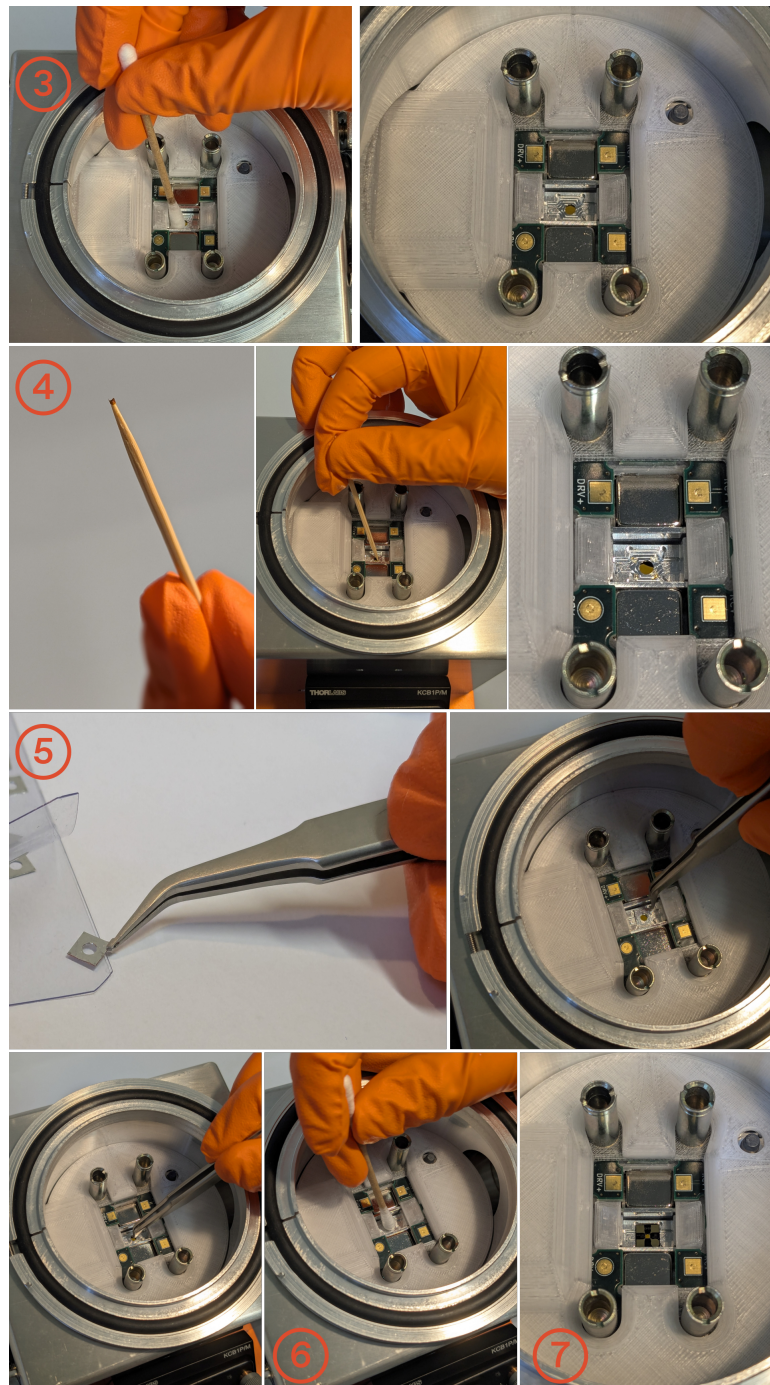

Figure 64: Visual support for the Indium foil exchange workflow.
3. Clean the chip holder with clean pressured air (optional) and a cotton swap dipped in isopropanol (see Figure 64 for this and all further steps).